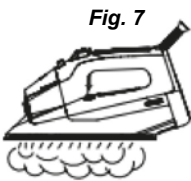

Fig. 7
- Fill the reservoir up to the maximum level indicated and set the steam selector (3) to "0"
- Set the Temperature shift button (6) to the maximum temperature.
- Hold the cleanout button (11) setting until all the boiling water, steam, impurities come out [Fig. 7].